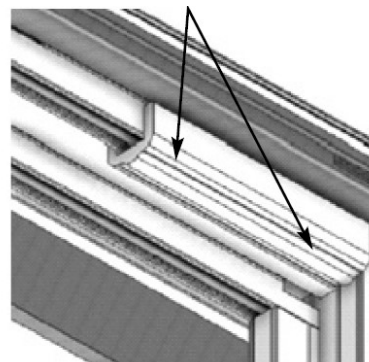

Figure 30
**53.** Install the panel bumper (Item 21) using two screws (Item 46) through the center of the bumper at 1/4" from each end (Figure 30).